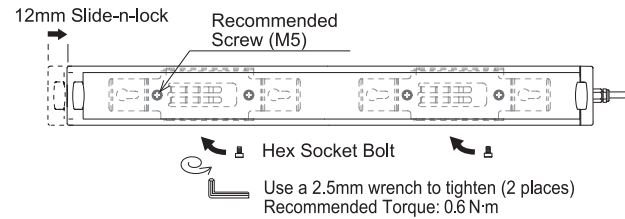

Figure 7. Slide Installation -2
- Specifications for the lens lengths of 200 mm and 300mm include one Standard Bracket per unit, and for the 600mm lengths, two Standard Bracket sets are included. Moreover, when sliding the Main Unit onto the Standard Bracket, allow a clearance of at least 12mm on both ends to allow attachment and removal. Refer to Figure 4. "Slide Installation -1" and Figure 7. "Slide Installation -2."
① Mounting Hole Dimensions and Standard Bracket Mounting (Recommended)